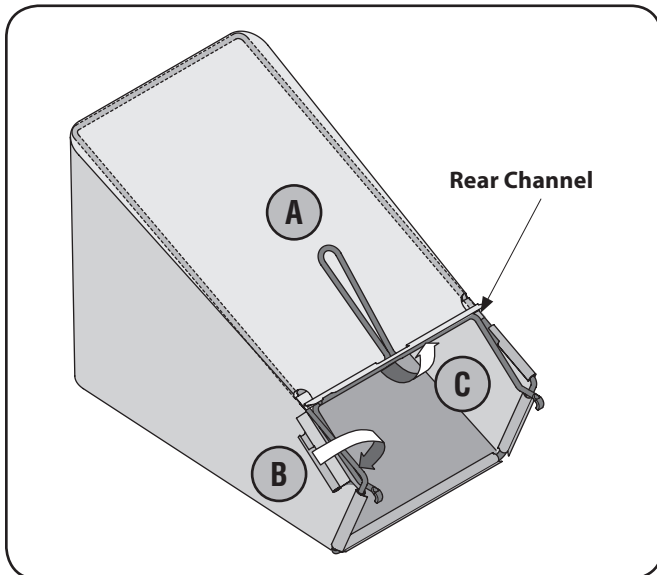

Figure 3-4
- a. Place bag over frame so that its black plastic side is at the bottom. See Fig. 3-4.
IMPORTANT: Be certain to attach the smaller, rear channel on each side of the bag to ensure the proper fit of bag. Refer to Fig. 3-4.